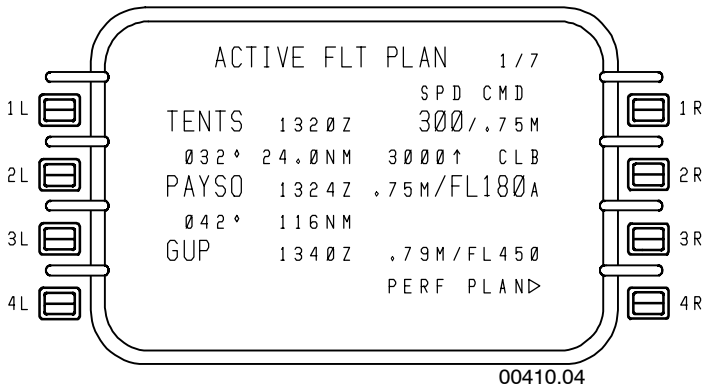

Figure 7-10
- **Vertical Entries** – Vertical definitions for waypoints are entered using the right hand line select keys (1R through 3R). This is shown in Figure 7-10.